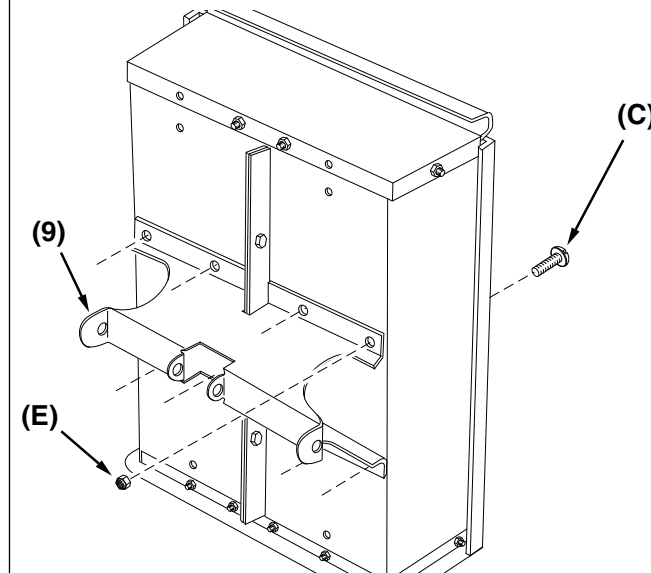

Figure 8
STEP 8 (SEE FIGURE 8): Attach the wheel support (9) to the cart bed using eight 5/16" x 3/4" truss head bolts (C) and 5/16" nylock nuts (E).